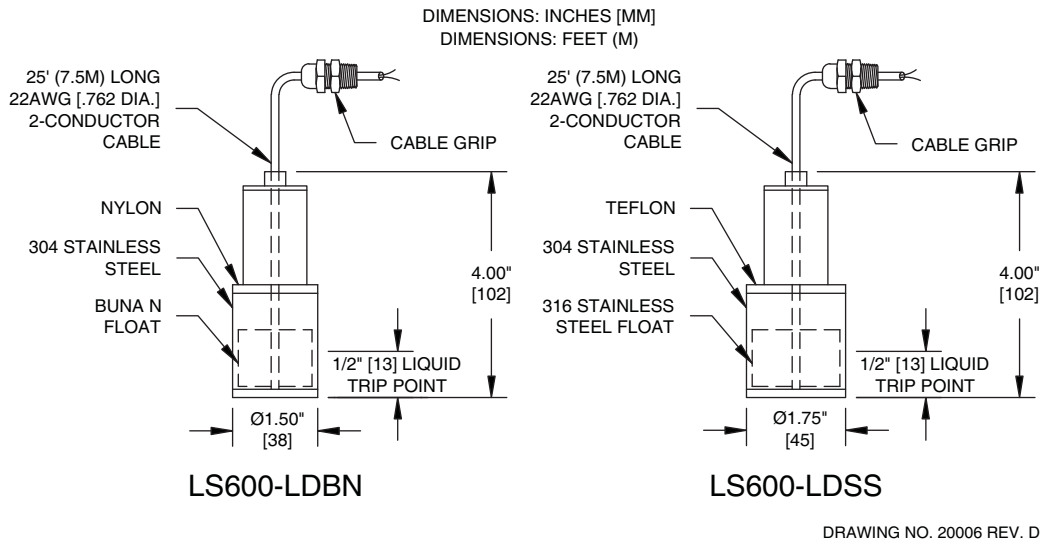

Figure 1-6 – LS600 LD Series
TMS2000W can be integrated with a variety of liquid sensors used for monitoring secondary containment areas around tanks and pipes. The maximum is 128 sensors (4 sensors per WiDAM, 32 WiDAMs) depending on the overall job configuration; check the specific job design drawings for the actual number and type specified. Figures 1-6 through 1-9 show four (4) sensor types available from Pneumercator with their most typical applications. Other non-Pneumercator models may be used; however, their use with TMS2000W should have been approved before attempting to wire them into the WiDAM.